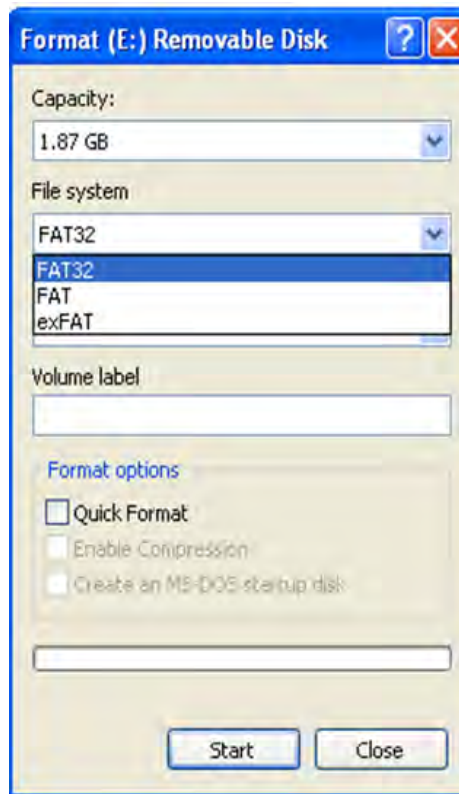

Figure 11: Format settings, when formatting CF card for a CR1000 data logger
- Right click on the drive and press [Format]. A new window will appear (Fig. 11) where you have to specify the format options. Change the 'File system' to [FAT32] and leave all other options as default values.